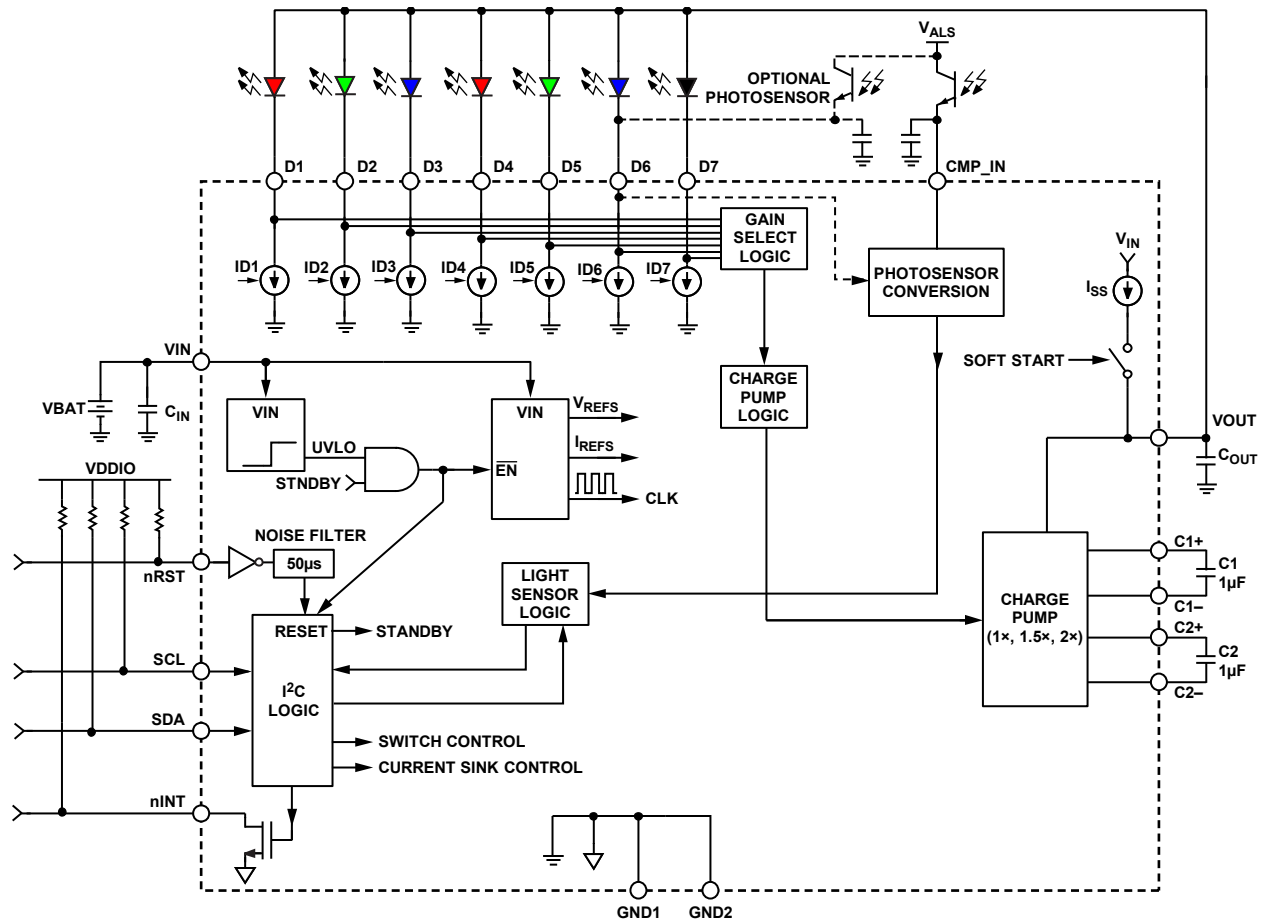

Figure 26. Detailed Block Diagram
By charging the capacitors in different configurations, the charge, and therefore the gain, can be optimized to deliver the voltage required to power the LEDs. Because a fixed charging and discharging combination must be used, only certain multiples of gain are available. The ADP8863 is capable of automatically optimizing the gain (G) from 1 $\times$, 1.5 $\times$, and 2 $\times$. These gains are accomplished with two capacitors (labeled C1 and C2 in Figure 26) and an internal switching network.